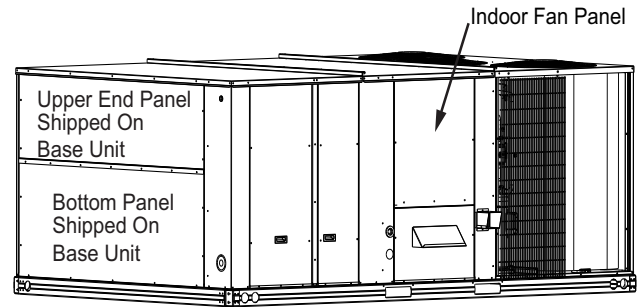

Fig. 2 — Upper and Bottom Panel on End of Unit
3. Remove the upper panel and bottom panel (provided with the HVAC unit) on the end of the unit to expose the return section. (See Fig. 2.) Save the screws for use later when replacing the panel. The panels can be discarded.
3. Remove the upper panel and bottom panel (provided with the HVAC unit). On the end of the unit to expose the return section. (See Fig. 2.) Save the screws for use later when replacing the panel. The panels can be discarded.